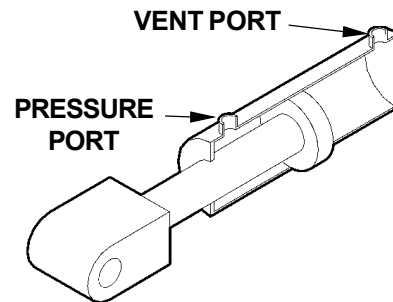

FIG. 40-1
5. Check the Hydraulic Cylinder. With the Platform on the ground, remove the Breather Plug or Vent Line from the Vent Port of the Cylinder (**FIG. 40-1**). Raise the Platform even with the bed. Allow pump motor to run two seconds more while you watch for hydraulic fluid at the Vent Port. A few drops of hydraulic fluid escaping the Vent Port is normal; however, if it streams from the Vent Port, Piston Seals are worn. Replace Seals.